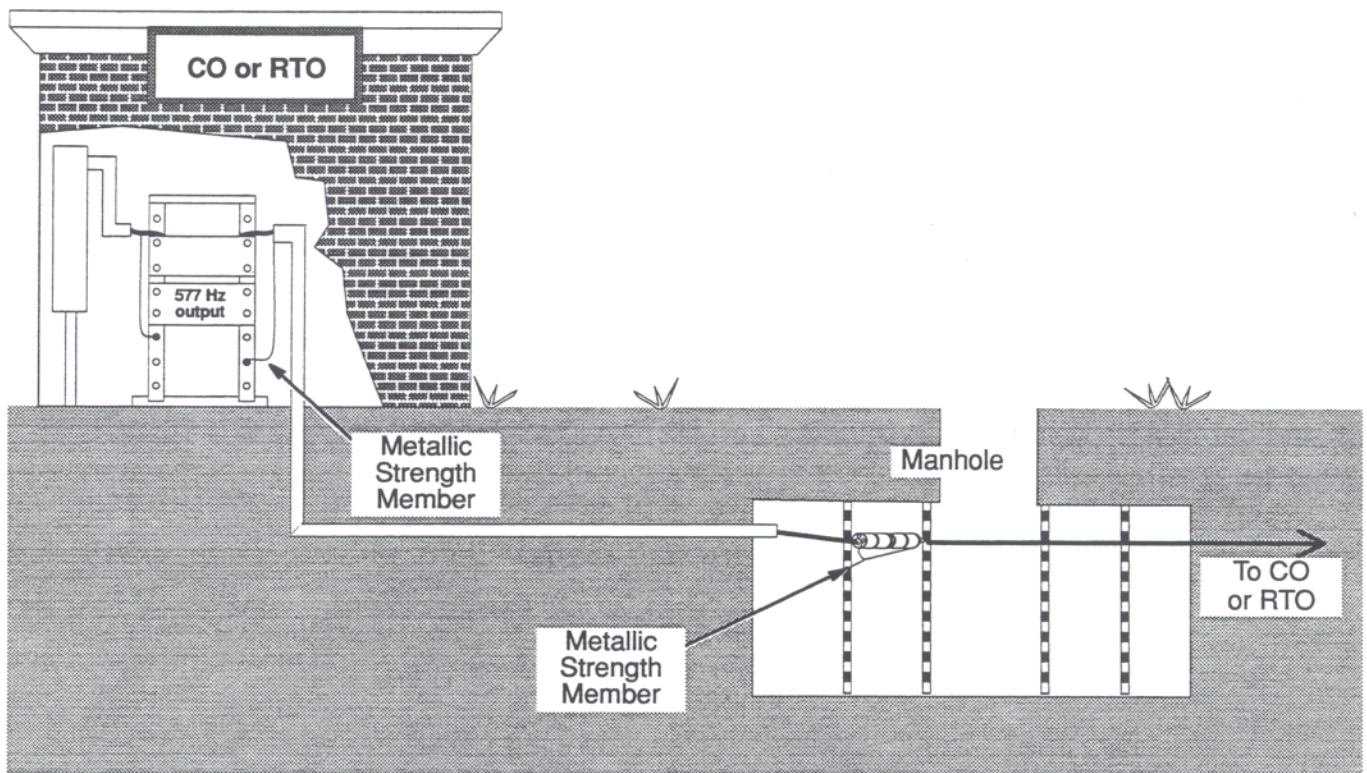

Fig. 4-6 Fiber Optic Cable Joining CO/RTO and Intermediate Splice Points
9.2 Underground fiber optic cable is normally installed in duct, or it may be placed in a smaller flexible plastic tube within the duct. The installation is normally made from a central office to a remote terminal office or distribution point (refer to Fig. 4-6). There may be several or many splice points in handholes or manholes along the route. Installation practices generally require that the fiber optic cable metallic sheath or strength member be grounded at the terminating ends. Bonding practices at the splice points vary by company. Therefore the metallic strength member may or may not be grounded or may be grounded through a remotely-actuated relay or a voltage transient suppression device. Some installations include a permanently installed rack-mounted transmitter that can selectively place a tracing signal on one of several fiber optic cables. If this transmitter produces a 577 Hz or 512 Hz signal, you can trace the fiber optic cable using the Dynatel Receiver.